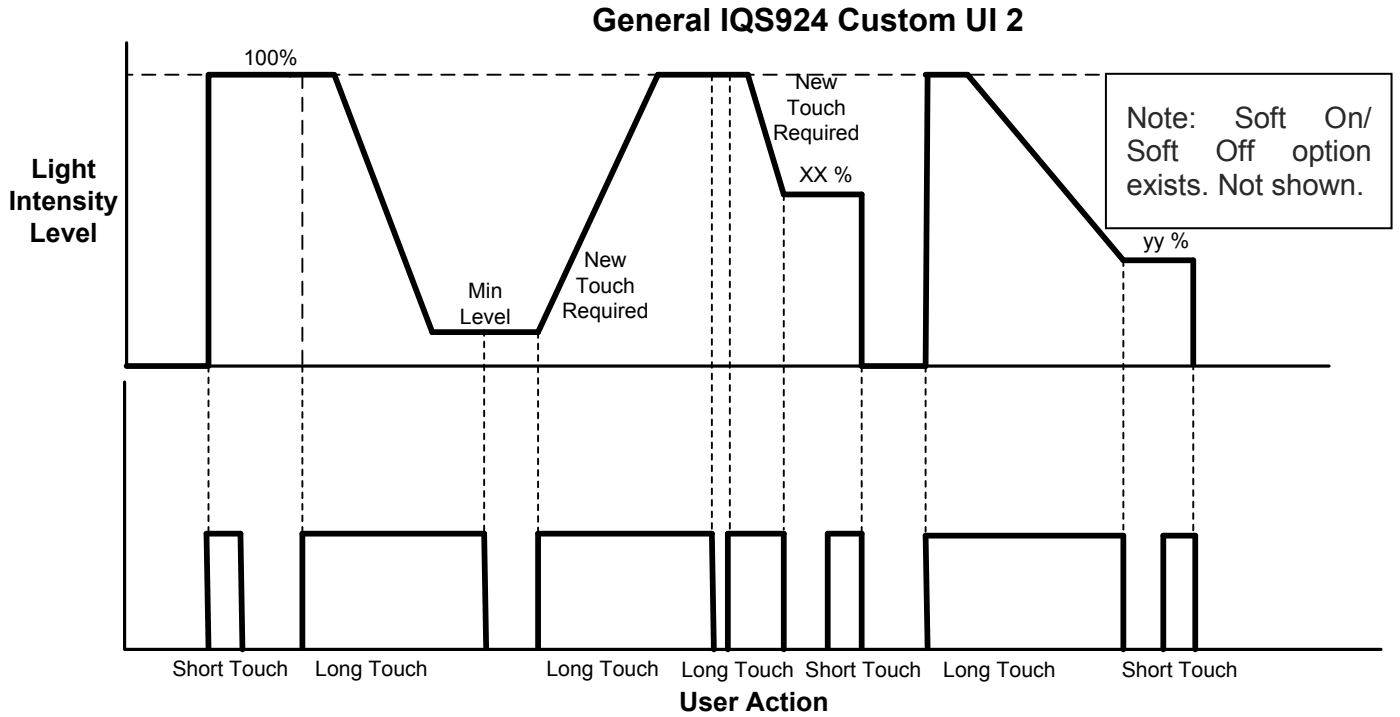

Figure 5.5 IQS924 Custom UI 2 illustration
5.3 Custom UI 2 (Refer to Figures 5.5 and 5.6)